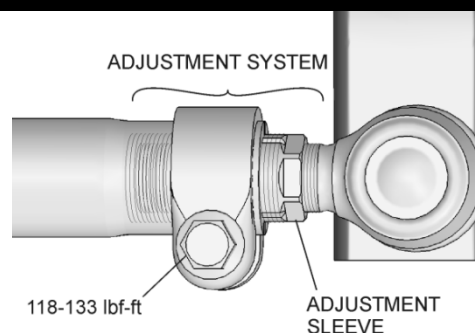

FIGURE 6
9. To prevent interference between the ball joint clamp bolts and other components of the steering system, the clamp bolt must be positioned vertically as shown on FIGURE 6. **Tighten the clamp nut to 118-133 lbf-ft.**